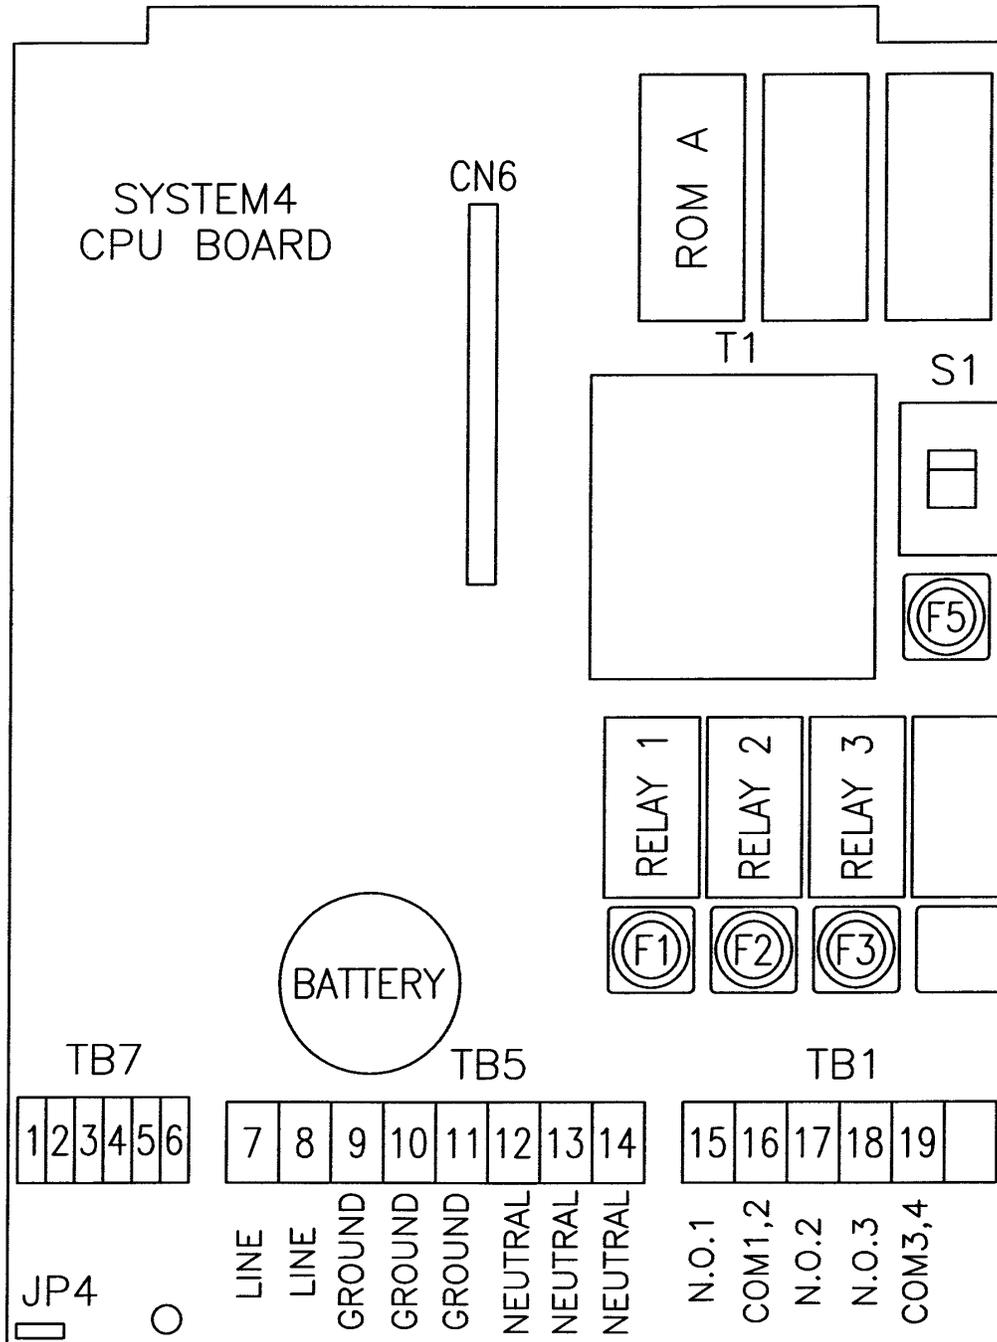

Fig 3.4
- Run Neutral (White) to terminal labeled "Neutral". (All three "Neutral" terminals are connected.) (Fig 3.4)